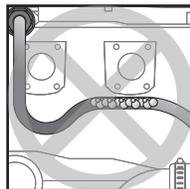

Figure 5. Rotate suction port.
10. If necessary, rotate heater suction port to attach supply hose (see Figure 5).